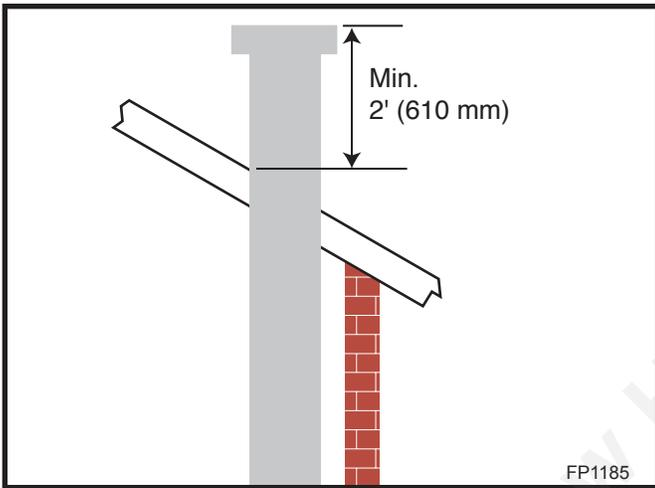

Fig. 44 Minimum termination to roof clearance.
- The minimum height of the vent above the highest point of penetration through the roof is 2' (610 mm). (Fig. 44) Refer to note 2, Page 14.